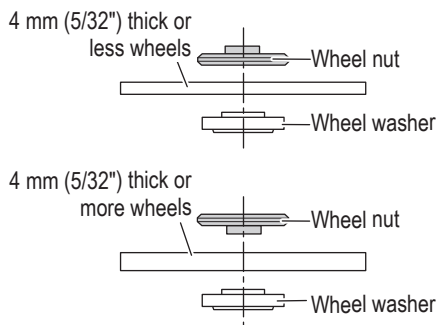

Fig. 20
- (1) Turn the disc grinder upsidedown so that the spindle is facing upward.
- (2) Align the oval-shaped indentation of the wheel washer (E) with the notched part of the spindle, then attach them.
- (3) Fit the protuberance of the abrasive cut-off / diamond wheel onto the wheel washer (E).
- (4) Screw the wheel nut onto the spindle. The direction for mounting the wheel nut varies by wheel thickness. (Fig. 20)